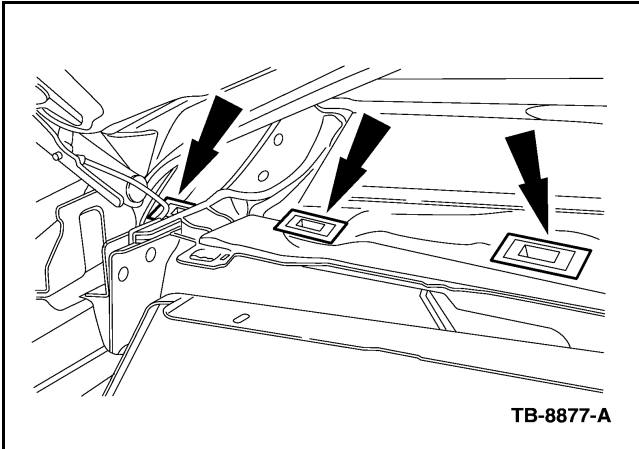

Figure 1 - Article 07-14-6
3. Verify that the ten (10) cowl panel mount grommets and seals are installed and sealing tightly to the vehicle. If any are missing, or the seals are damaged, replace as necessary.
- a. Apply a small bead of TA-2 Motorcraft® Repair Urethane Adhesive/Seam Sealer around all ten (10) grommets. (Figure 1)